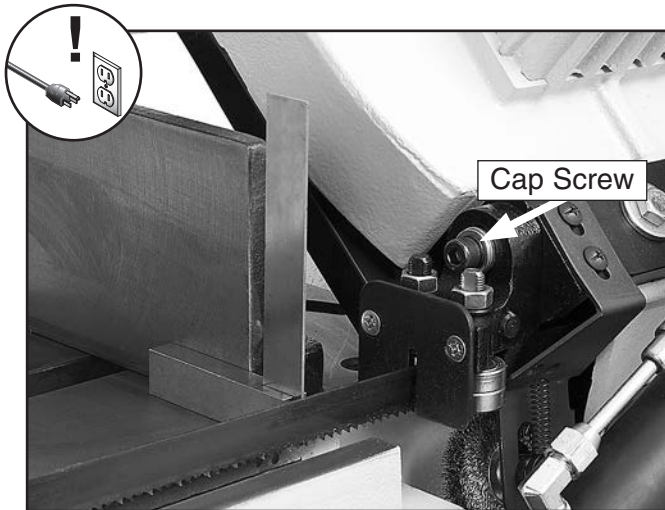

Figure 58. Square placed on table bed against edge of blade.
3. Place a square on table bed and against edge of blade (see **Figure 58**), and check different points along length of table between blade guides.
4. Loosen cap screw shown in **Figure 58**, and rotate blade guide until blade is vertical to bed.